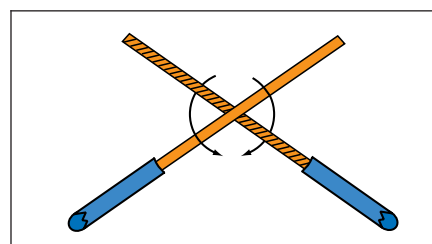

Figure 2 Position in An "X"
5. Position wires in an "X" pattern. Securing one wire firmly, begin the wrap motion of the opposite wire until one turn is completed. (See Figures 2 & 3.)